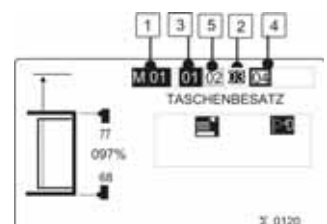

fig. 12
2. **fig. 12:** Activate or deactivate the seam number of a selected seam